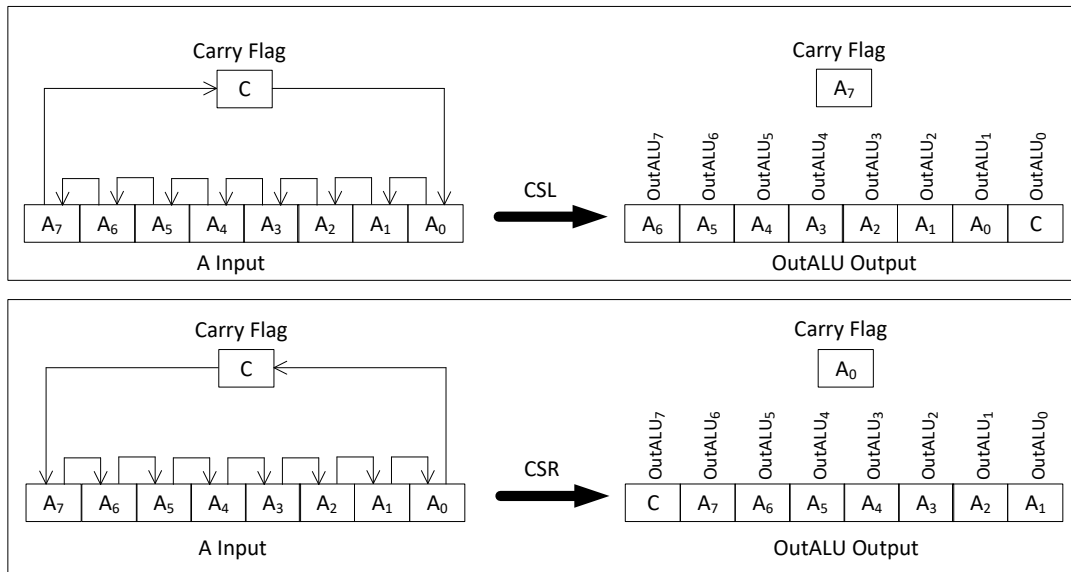
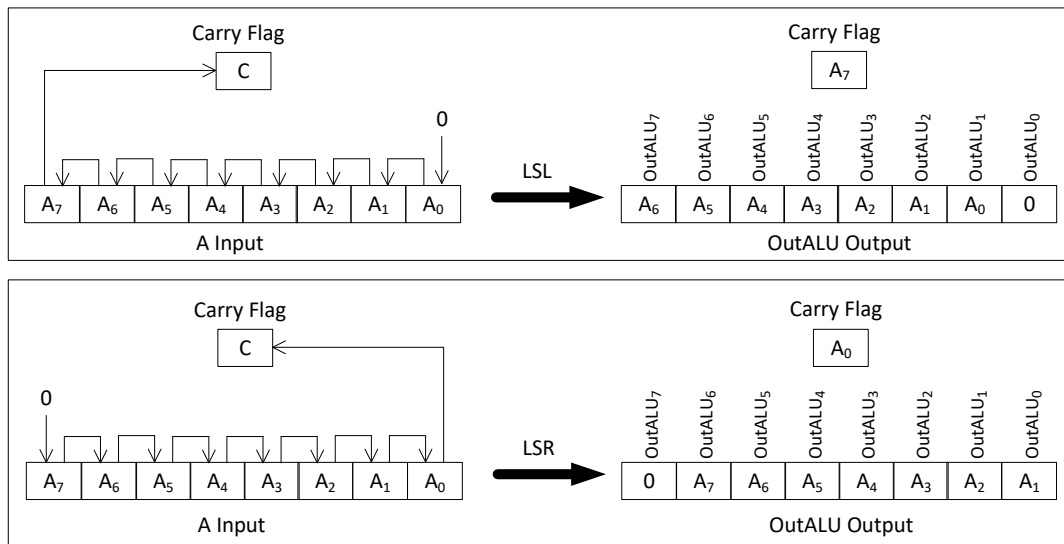

Figure 10: Circular Shift Operations
Figure 11: Logical Shift Operations
**(Circular | Arithmetic | Logical) Shift (Left | Right)** operations are depicted in Figure 10, Figure 11, and Figure 12.